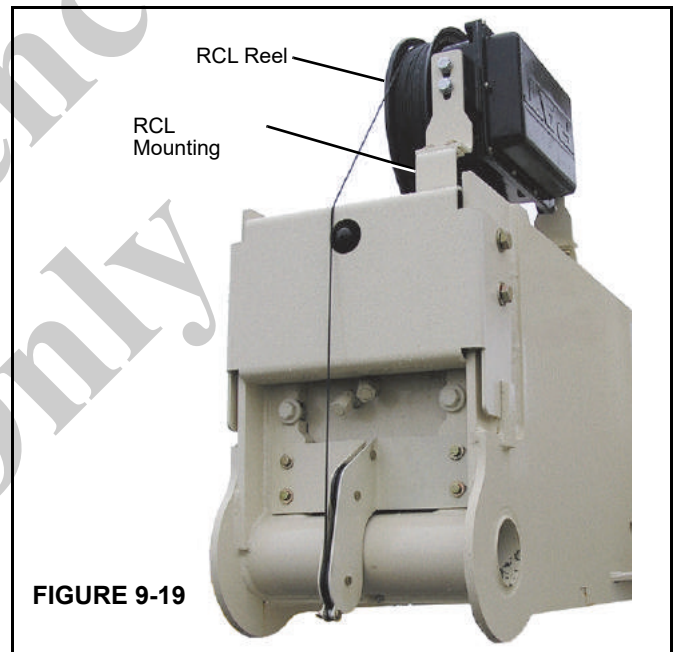

FIGURE 9-19
The crane is shipped with the RCL reel temporarily attached to the top of the boom (Figure 9-19). To mount the reel:
1. Remove the RCL reel and mounting brackets from the top of the boom (Figure 9-19).